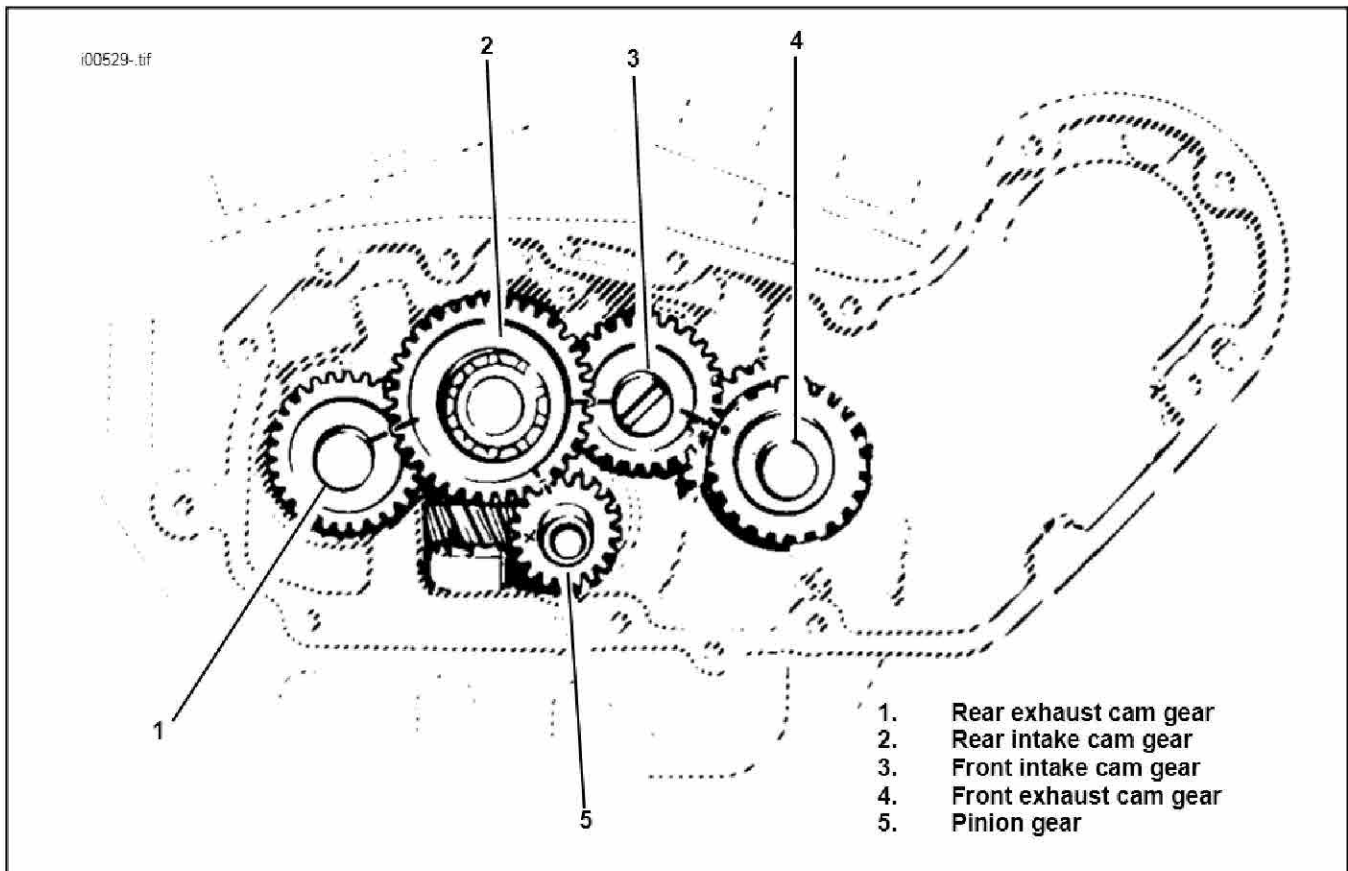

Figure 2. Proper Alignment of Camshaft Timing Marks
- 4. See Figure 2. Rotate engine to align timing marks. Cams are numbered 1 to 4 from the rear exhaust (1) to the front exhaust (4). Remove camshaft 2. One at a time, remove camshaft 1, 3 and 4 and replace with the appropriate camshaft from this kit. Be careful to maintain timing mark alignment. Install camshaft 2 from this kit last. Carefully check alignment of all timing marks.